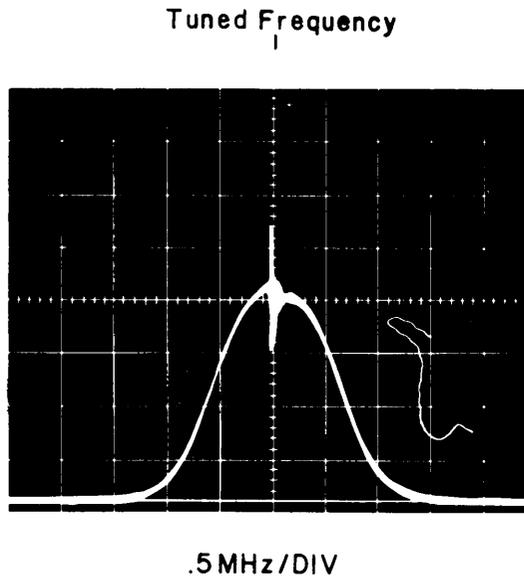

Figure 4-13. Typical Response, 4.5-12 MHz RF Preselector
- (14) Connect the DVM to board terminal 5 of the 4.5- 12 MHz RF Preselector (A4) and adjust the tuning shaft for +1.34 Vdc at this point.
- (15) Set the sweep generator to sweep 5 MHz about a center frequency of 4.5 MHz at a-15 dBm output level.
- (16) Adjust A4L1, A4L4, A4L5 and A4L7 for maximum response.
- (17) Readjust the tuning shaft for +9.5 Vdc at terminal 5 and reset the sweep generator center frequency to 12 MHz.
- (18) Adjust A4C1, A4C4, A4C10 and A4C13 for maximum response.
- (19) Repeat steps (14) through (18) until interaction between adjustments is minimized. Figure 4-13 illustrates a typical response for the 4.5-12 MHz RF Preselector. The 3 db bandwidth should be approximately 20% of the tuned frequency.